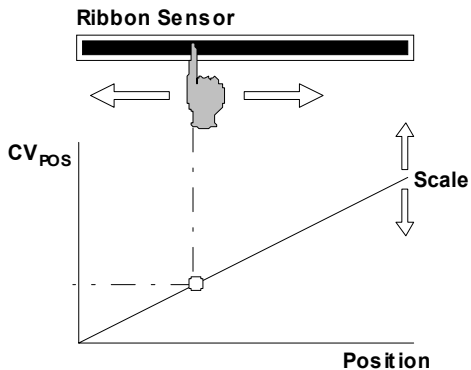

Fig. 1: Connection between position, Control Voltage CV_{POS} and Scale
The position sensor of the A-198 is in principle a linear potentiometer that is activated whenever a finger touches the sensor. Consequently the **relation** between the **position of the finger** and the **Control Voltage CV_{POS}** is linear too (see fig. 1).
The **Scale**, i.e. the connection between position difference and voltage difference, is adjusted with control ① (see fig. 1).